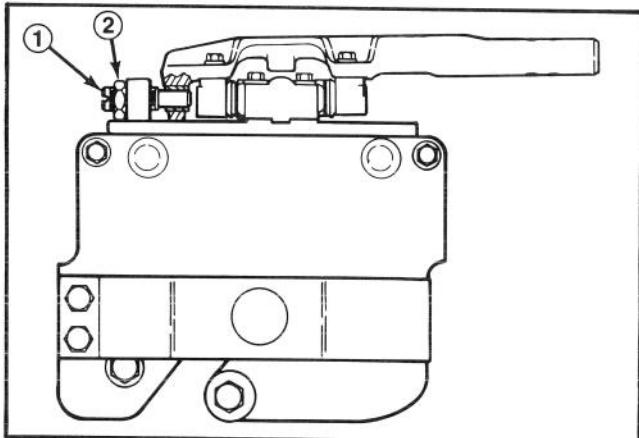

Figure 15
B. **Fixed Position** (Fig. 15) — Generally used for heights-of-cut above one inch (25 mm), where more than approx. 1" (25 mm) of grass is being removed, the front roller is fully raised in the anti-scalp position or when skids or dethatching units are installed. In the fixed position, cutting units are locked to the pivot arm and do not follow uneven contours in the turf as they would in the float position.
Fixed Positions: Loosen jam nut on lockout pin and screw pin into hole in pivot arm (Fig. 15). Tighten jam nut to secure lockout pin.
- 1. Lock each cutting unit in the fixed position (Refer to Cutting Unit Orientation, Fig. 15). Set the reel to bedknife adjustment and height-of-cut adjustment (Page 9-11).
- A. Lock cutting unit in fixed position (refer to Cutting Unit Orientation, Fig. 15).